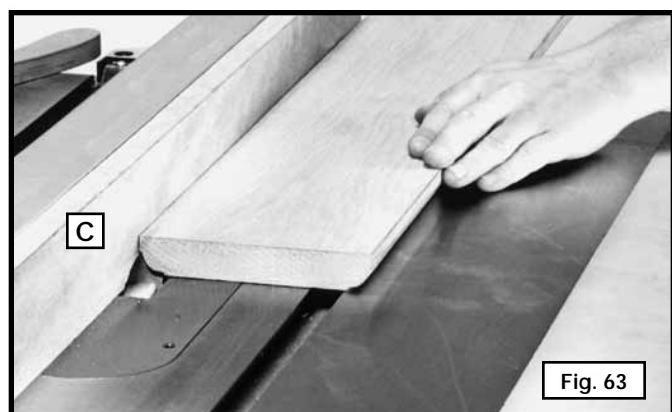

Fig. 63
2. When using the moulding cutterhead, add wood-facing (C) to the face of the rip fence (Fig. 63). The wood-facing is attached to the fence with wood screws through holes which must be drilled in the fence. Stock that is 3/4" inch thick is suitable for most work, although an occasional job may require 1" facing.
3. Position the wood-facing over the cutterhead with the cutterhead below the surface of the table. Turn the saw on and raise the cutterhead. The cutterhead will cut its own groove in the wood-facing. Fig. 63 shows a typical moulding operation.